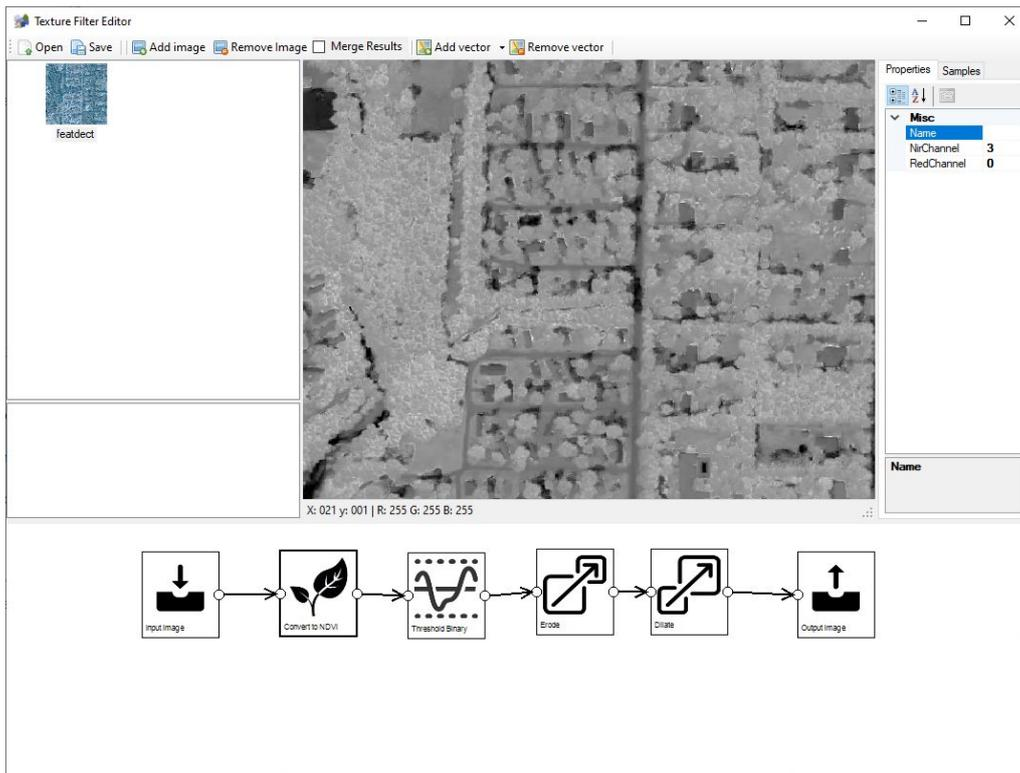

Figure 6.27: The NDVI value calculated from the input image
2. Calculate the NDVI value, see Figure 6.27.